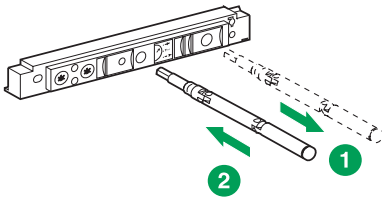

Fig. 37
- Fit the racking crank (see Fig. 37).